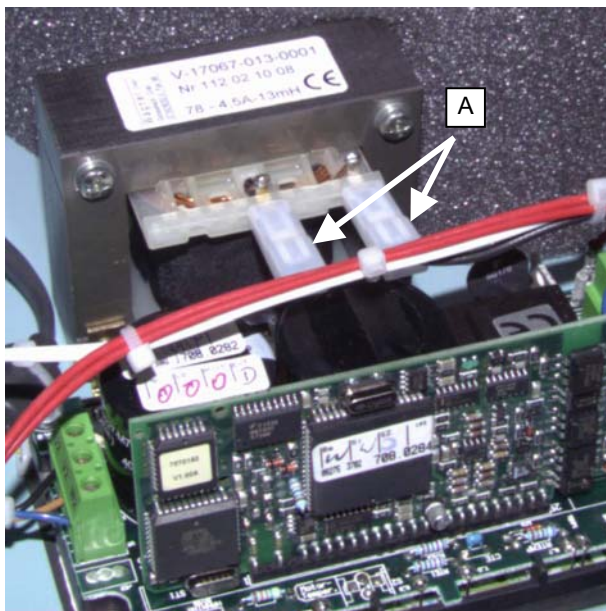

Figure 1
- Pull both plugs (A) from the mains choke coil, see Figure 1.